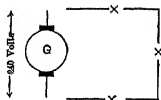

FIG. 28. Three arc lamps in series across a generator.
**Prob. 3-2.** What resistance must each lamp of Fig. 28 have in order to allow a current of 6.6 amperes to flow in each? Neglect the resistance of the line wires.